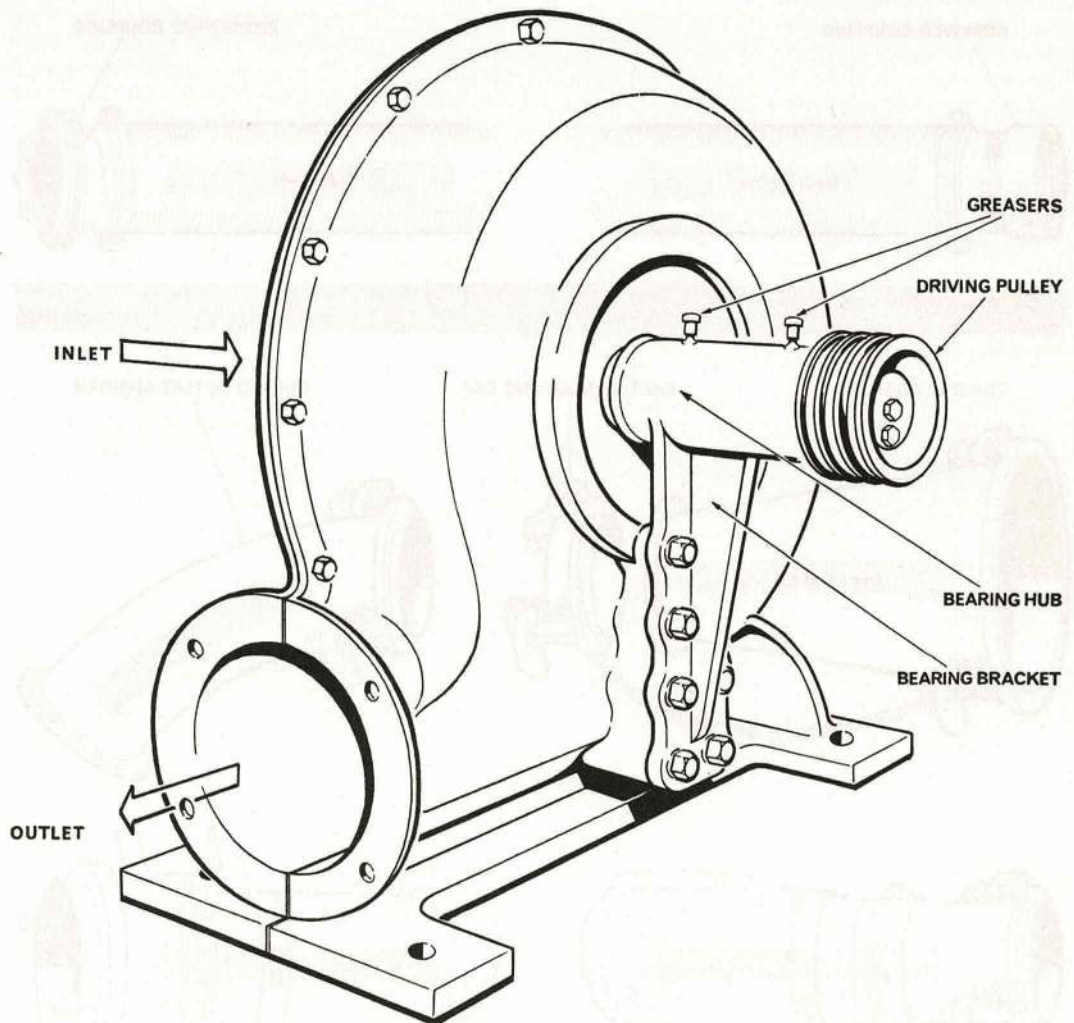

Fig. 11. DELIVERY FAN
49. **Delivery Fan.** The six bladed centrifugal type fan (Fig. 11) is carried on a ball and roller bearing assembly. The drive is taken by a three grooved pulley and belts from the layshaft. Lubrication is by means of grease caps.